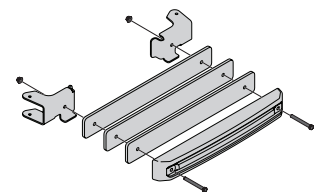

Figure 27
2. Attach the weight and three weight plates to the weight hanger brackets with two 3/8" Hex head capscrews (710-3085) and two nuts (712-04065) as shown in Figure 27.